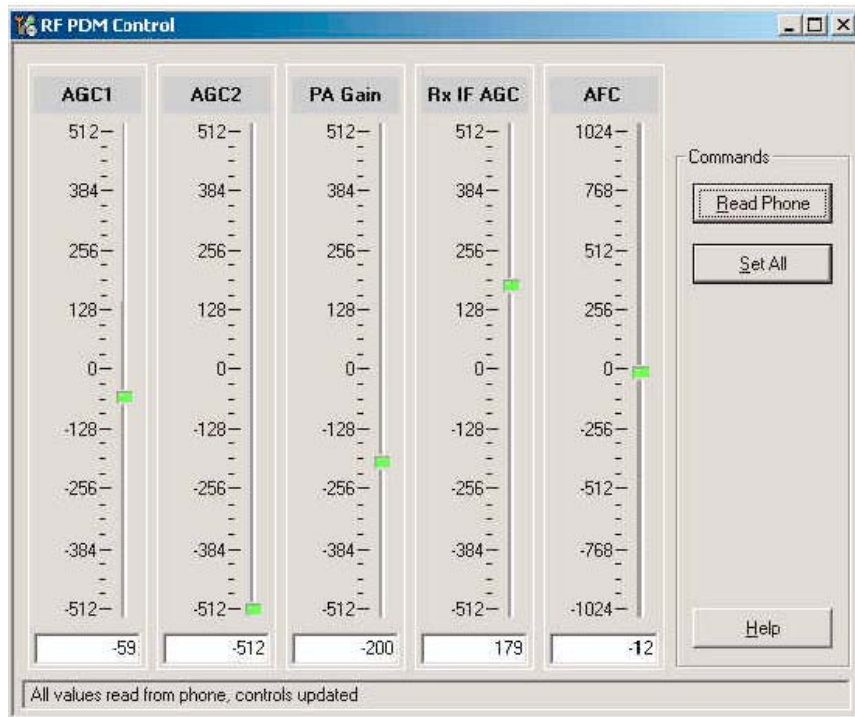

Figure 9: RF PDM dialog box for AMPS
- Check that AGC PDMs produce and adjust TX power within the proper limits. See Figure 9 on page 13, Figure 12 on page 16, and Figure 13 on page 18.